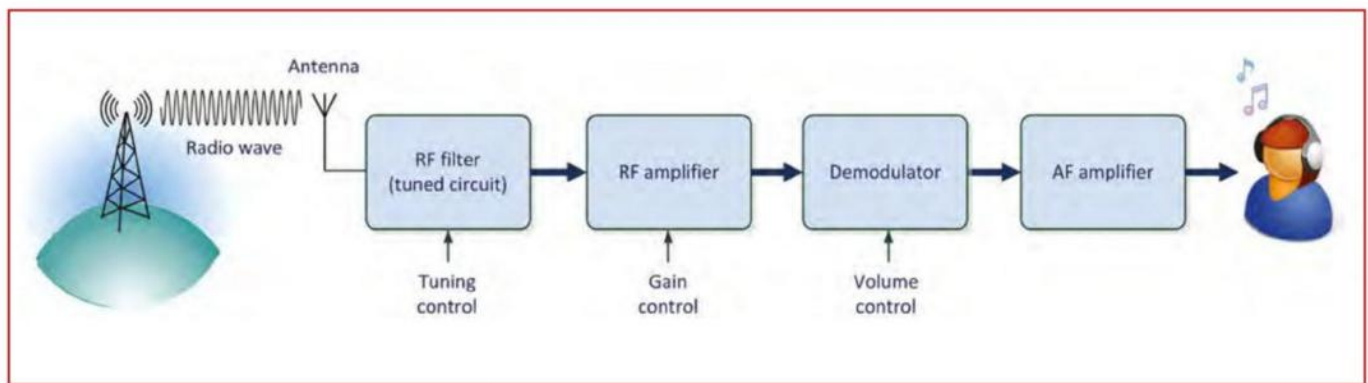

Fig.1. Simplified block schematic of our *Simple Radio Receiver*
The simplified block schematic of our *Simple Radio* is shown in Fig.1. The circuit comprises just four stages; a radio frequency (RF) tuned circuit, an RF amplifier, a demodulator and an AF amplifier. The RF tuned circuit provides tuning and selectivity, and incorporates a ferrite rod for reception of strong local stations without the need for an external wire antenna. For more distant reception, an external wire antenna (just 4m to 5m of insulated wire) will help to bring in signals from further afield.